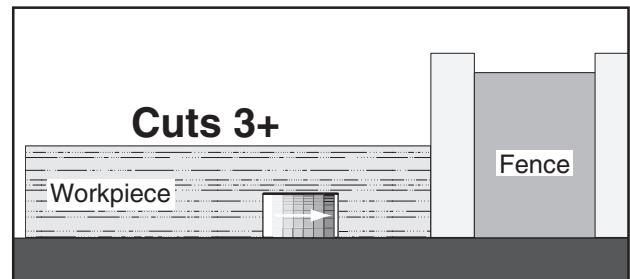

Figure 82. Additional single blade dado cuts.
9. Make additional cuts (see **Figure 82**) in the center of the dado to clear out the necessary material. The dado is complete when the channel is completely cleared out.